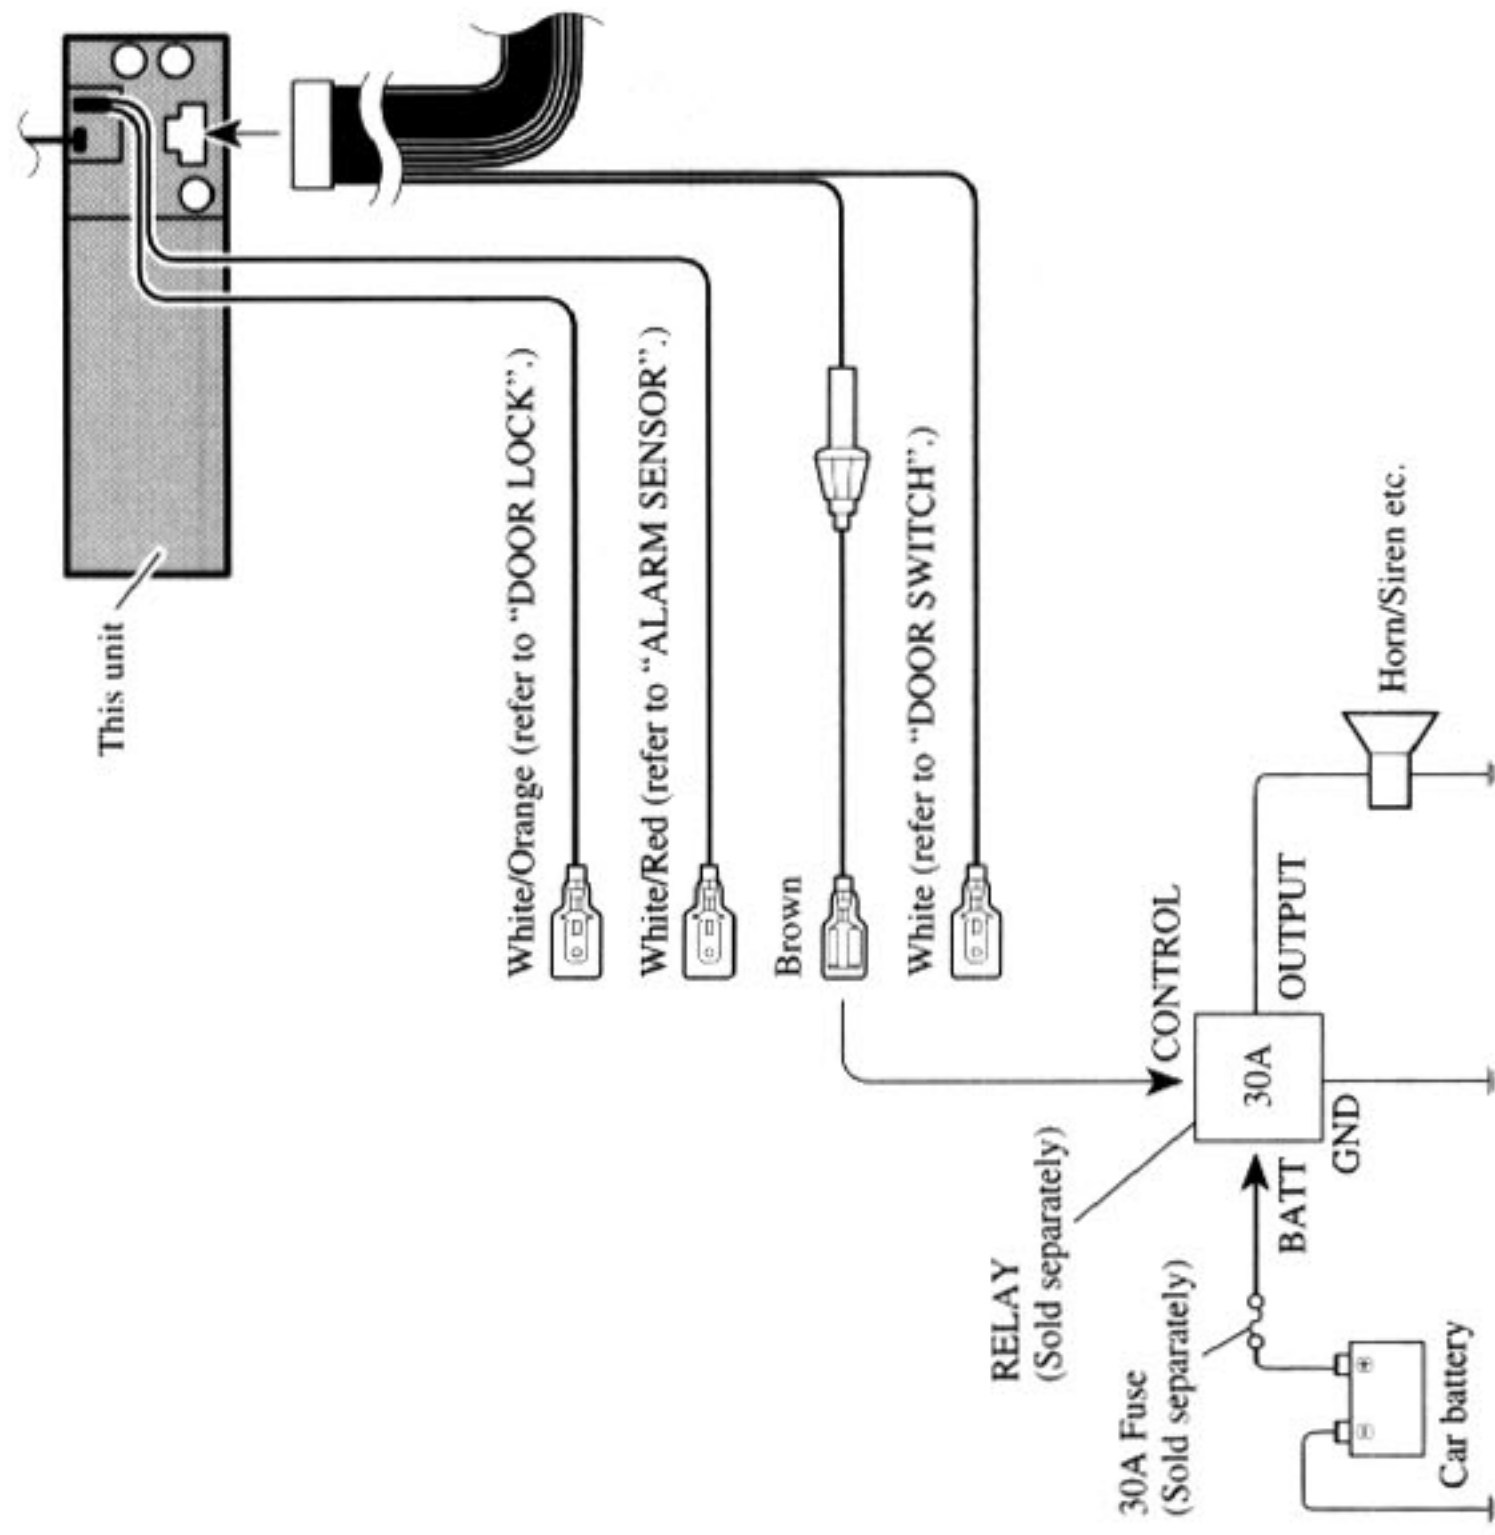

Fig. 31
- Brown (ALARM OUTPUT)** ..... (Fig. 31)